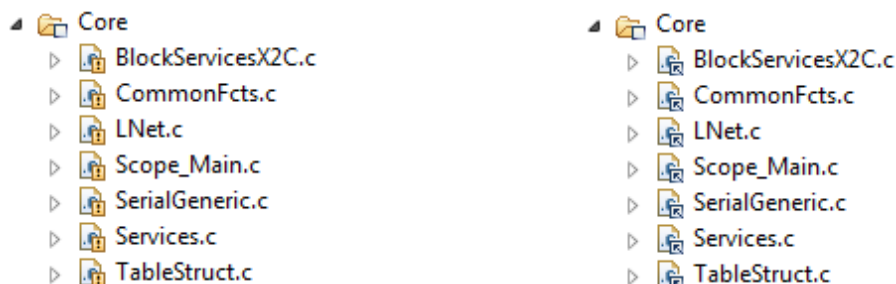

Figure 27: *Code Composer Studio* invalid (left) and valid (right) X2C root directory
3. In the *Code Composer Studio* file structure of the *Blinky* demo project there are two virtual folders *Blocks* and *Core*, which should be linked directly to the X2C directory. To ensure this go to **Project** → **Properties** drop down **Resource** and click **Linked Resources**. Double click on folder **X2C\_ROOT** and set the correct link to your X2C installation directory (<X2C\_ROOT>). After hitting **OK** two times there should not be any warning signs (like shown in Figure 27) at the icons for the linked files in the *Blocks* and *Core* folders.